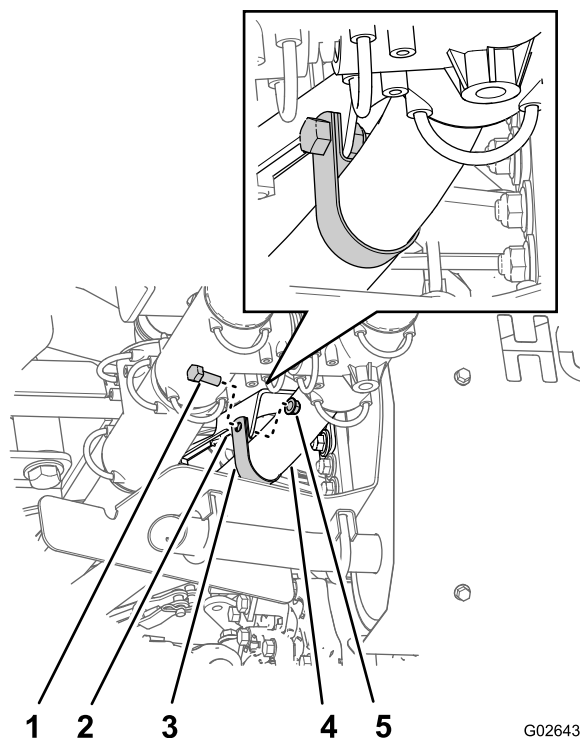

Figure 15
1. Slip the clamp (1-1/4 inch) around the 1-1/4 inch hose that is adjacent to the exhaust hanger for the tailpipe bracket (Figure 8 and Figure 15).
2. Align the hole in the clamp with the hole in the lug of the muffler bracket (Figure 15).
3. Attach the clamp to the bracket (Figure 15) with the bolt (5/16 x 1 inch) and flanged locknut (5/16 inch).